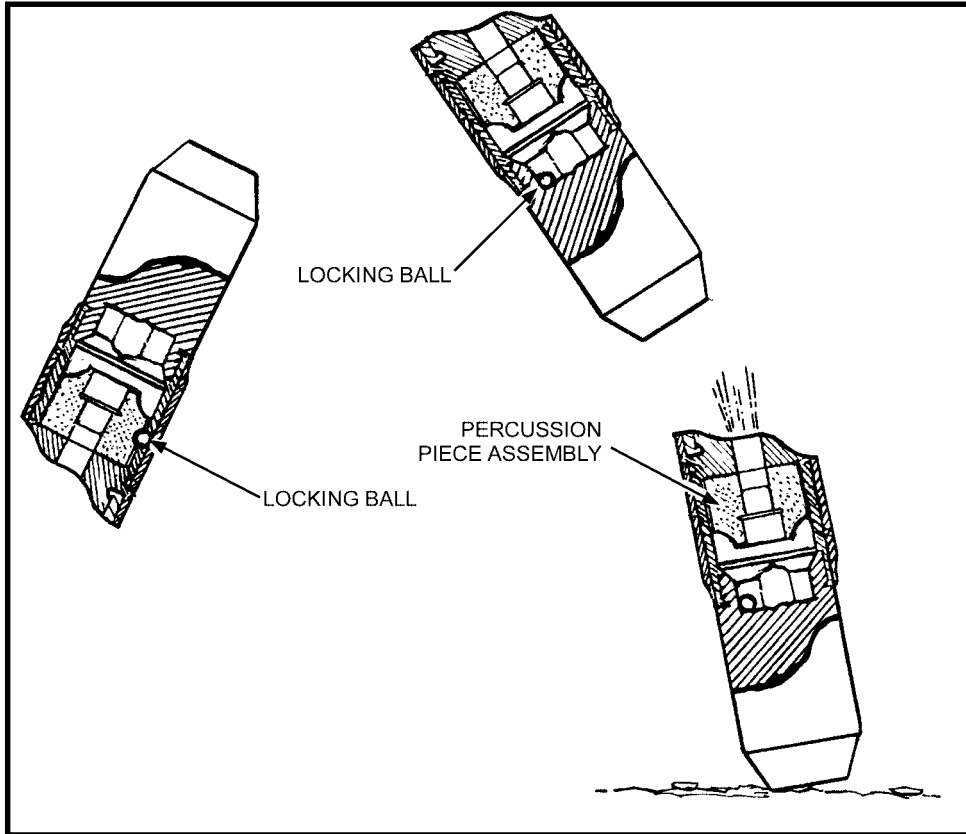

Figure A-16. Safety device.
(3) After the subcaliber projectile has left the sabot barrel, the impact fuze is activated. The percussion assembly, which contains the primer for the fuze mechanism, is held in position within the ignition case by two safety balls. When the projectile clears the sabot barrel, the safety balls move outward, freeing the percussion piece. The stabilizing fins open as the projectile clears the sabot barrel, providing in-flight stability. When the projectile ascends to its maximum ordinate, a locking ball keeps the percussion piece from moving forward, preventing the cap from contacting the pin. This feature precludes premature functioning should the projectile strike a tree branch or other object (Figure A-16, page A-16).